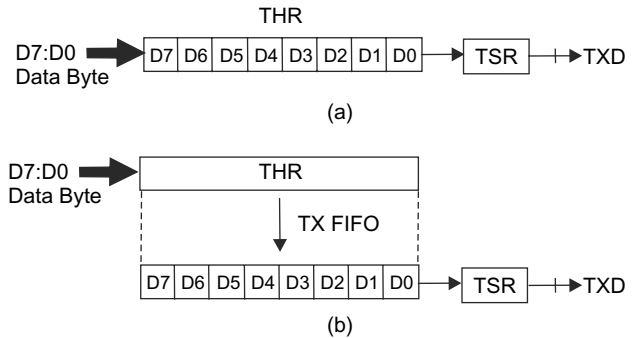

Fig. 9.94 Transmitter (a) non-FIFO mode (b) FIFO mode
A transmitter is used for parallel-to-serial conversion and transmits data from CPU to the serial port. This section has transmit(TX) FIFO register and transmit shift register (TSR). The transmitter operates in non-FIFO and FIFO mode. Figure 9.94(a) shows the non-FIFO mode of transmitter and FIFO mode of transmitter is depicted in Figure 9.94(b).